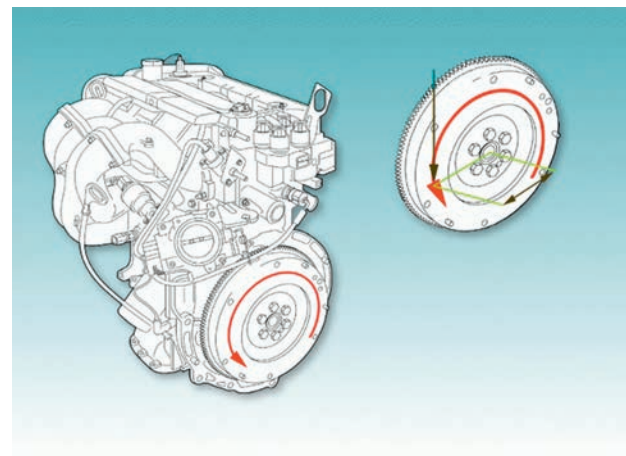

Figure 2.33 Torque and power measured at the flywheel
measure of the turning force provided by the engine. Torque output can vary independently of engine speed and is a measure of the load on the engine. The SI units of torque are newton metres (Nm) and the imperial units are pounds/foot (lb/ft). Power is a derived unit and relates to the rate of work done, or the work done per unit of time. For an engine, the power is a product of torque and speed. Power output is given in kilowatts (kW) or horsepower (HP). Engine power is normally stated as measured at the flywheel, via a dynamometer or brake, hence the term 'brake horsepower' (Fig. 2.33).